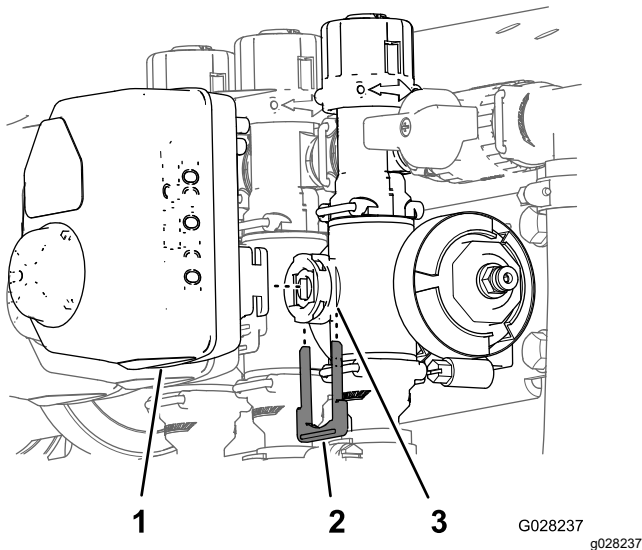

Figure 112
3. Remove the retainer that secures the actuator to the manifold valve for the rate control, agitation, master section, or section valve (Figure 112).